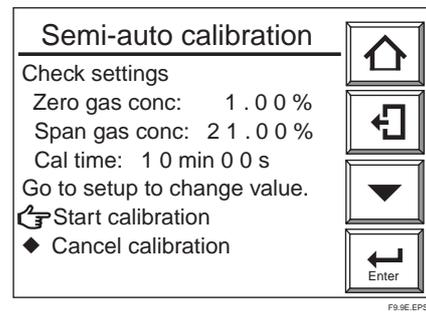

Figure 9.9 Semi-automatic Calibration Display
- (2) Select Semi-auto calibration to display the Semi-automatic calibration display shown in Figure 9.9.